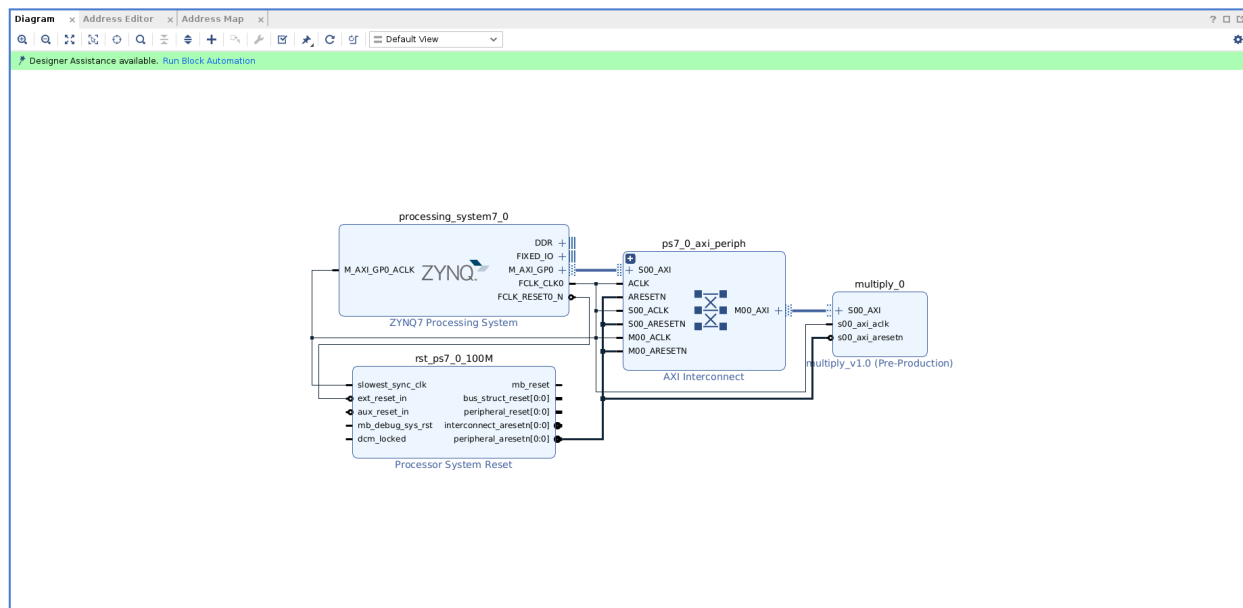

Figure 6: Layout of the Design
7. Now, select the Vivado window which has the PS system. Open the diagram tab and add 'multiply' IP to the PS system. Select 'Run Connection Automation' and in the prompted window select 'All Automation' and click 'OK'. Once automation is completed, a layout is generated. Right click on the diagram and select 'Regenerate Layout' to re draw the layout design. The layout is shown in Figure 6. A 'Processor System Reset' block is also created which synchronizes the peripheral and interconnect reset to clock.